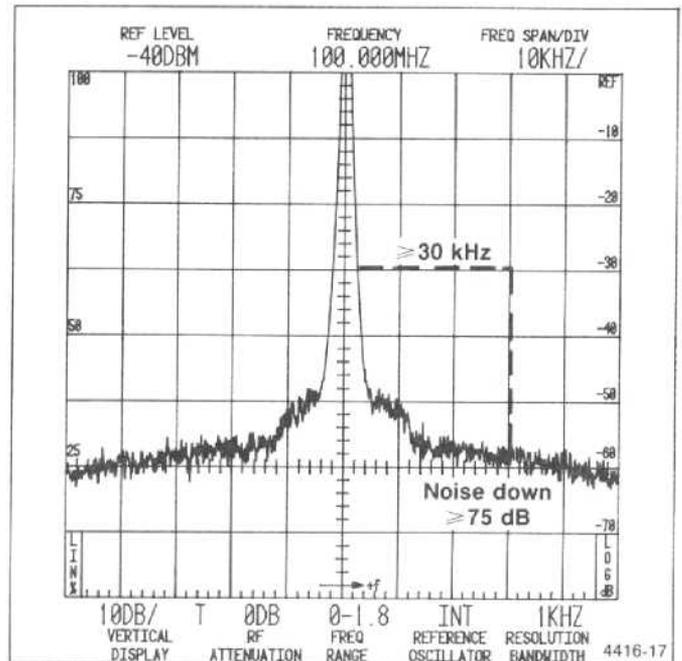

Figure 4-9. Typical display showing how to measure noise sidebands.
c. Check the amplitude of the noise sidebands 30 times the resolution bandwidth away from the signal (Figure 4-9). Noise sidebands should be 75 dB or more below the peak signal level or 55 dB below the top of the screen.